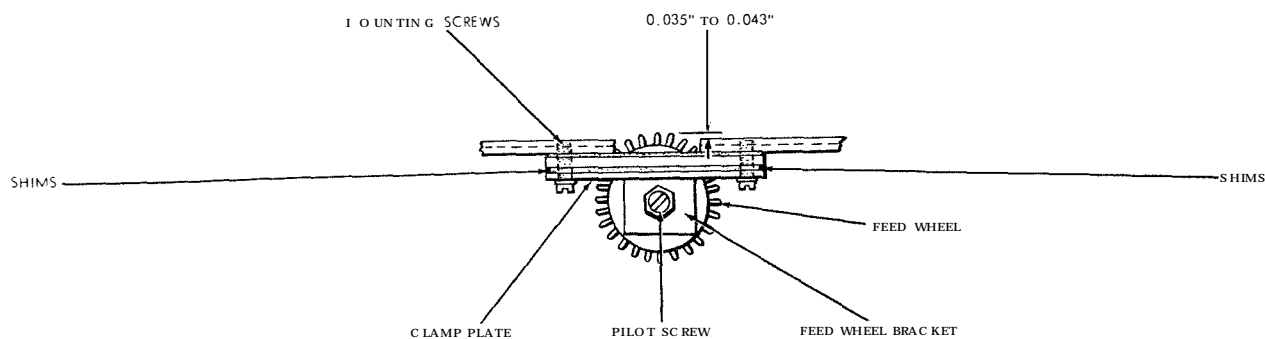

Figure 7-95. Feed Wheel
(26) FEED WHEEL. (See figure 7-95.)
(c) The tape feed wheel should be positioned so that, when a piece of perforated tape (with the perforations properly centered) is engaged by the feed wheel, there is an equal amount of clearance between the sides of the tape guide slot and the edges of the tape. To adjust, position the tape feed wheel by means of the pilot screws (see figures 7-95 and 7-98). After positioning the tape feed wheel, there should be some end play but not more than 0.002 inch. Recheck feed pin adjustment.